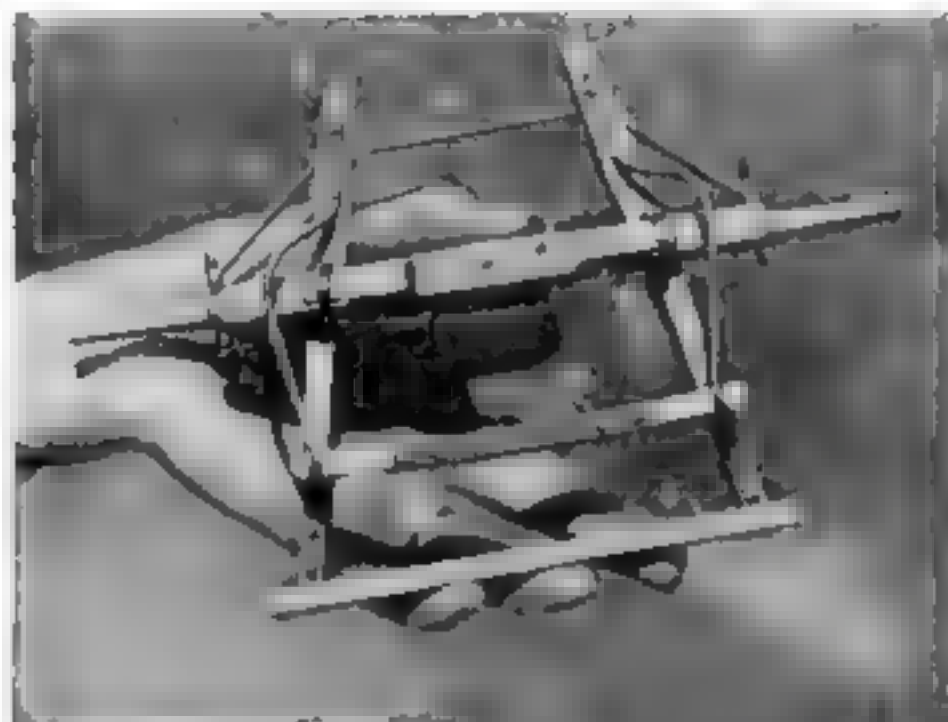

Fig. 6. Top view of the front iron assembly showing sand board F and sand plate A.
SAND BOARD: Designated by W in Figs. 6 and 9. Make a cardboard pattern. Note rounded parts, sand plate and hound notches.
Front (P): Butt the end crosspieces and nail, making the tenon ends with a plastic wood composition. Notice the crosspiece S and fifth wheel R (see Figs. 6, 7, and 9), and the wooden beads between sand board H and axle O.